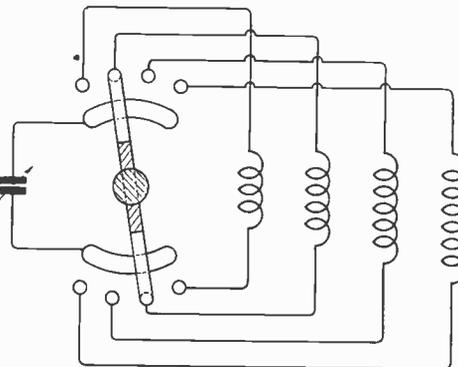

Fig. 2.
(1) It is immaterial.
(2) Use the same wire as for the aerial, without a break in it if possible.
(3) See page 584, Fig. 2, December 10th issue, omitting the condenser across the anode inductance.
(4) The maximum wavelength will be about 3,500 ms.
G.F. (Walworth) asks (1) For criticism of a crystal set. (2) For dimensions for a frame aerial to use with it. (3) If the circuit is incorrect, for a better one. (4) If a telephone transformer is necessary with L.R. telephones.
(2) A switch can be arranged as in the diagram Fig. 2, but we do not recommend it. It is better to connect each coil into the circuit as required. This can be done almost as easily as switching if suitable plug connections are used.
**A.M.L. (Salford) asks** (1) *The wavelength of a certain coil.* (2) *For a single valve circuit.* (3) *If the aerial described is suitable for additional apparatus to increase efficiency.*
(1) The inductance is 2,600 mhys., which will tune a P.M.G. aerial (0.0002 mfd.) to approximately 1,400 ms.
(2) The circuit shown on page 584, Fig. 2, December 10th issue (either with or without reaction condenser) should be suitable.
(3) For best results the aerial should be above the two rows of houses if possible.
(4) A single valve set may be made quite efficient up to a certain point. To increase the efficiency additional valves will be required.